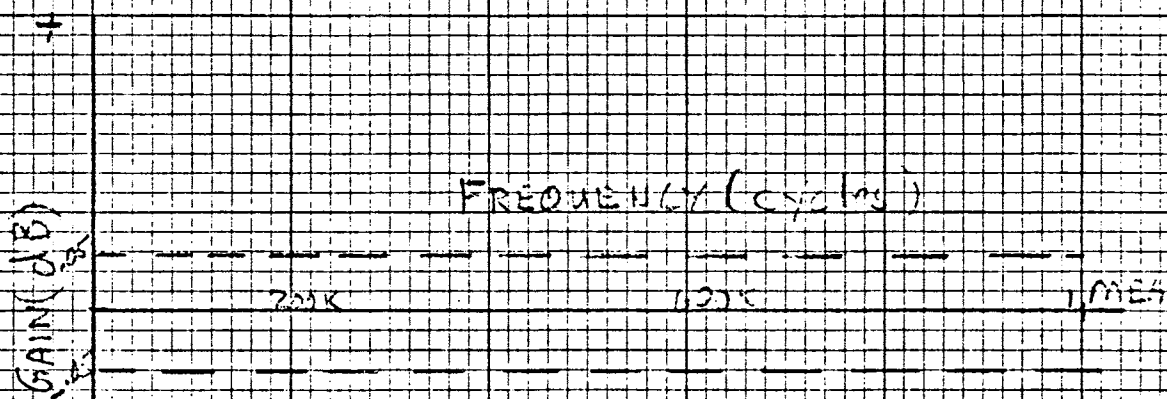

FIG 2 : DESIGN LIMIT ON EQUALIZATION
- A. Making the signal flat across the band. (See Fig 2)